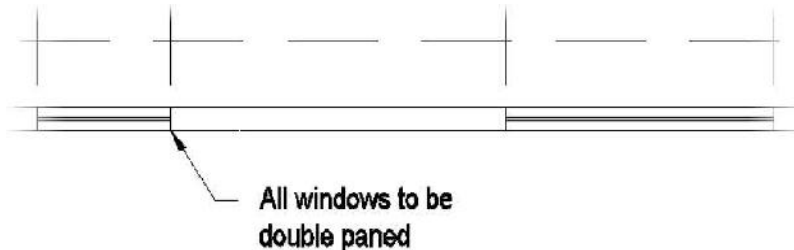

FIGURE 12.42: The multileader pointing to the first window
13. Adjust the width of the text, and then click a blank spot in the drawing area (see Figure 12.42).